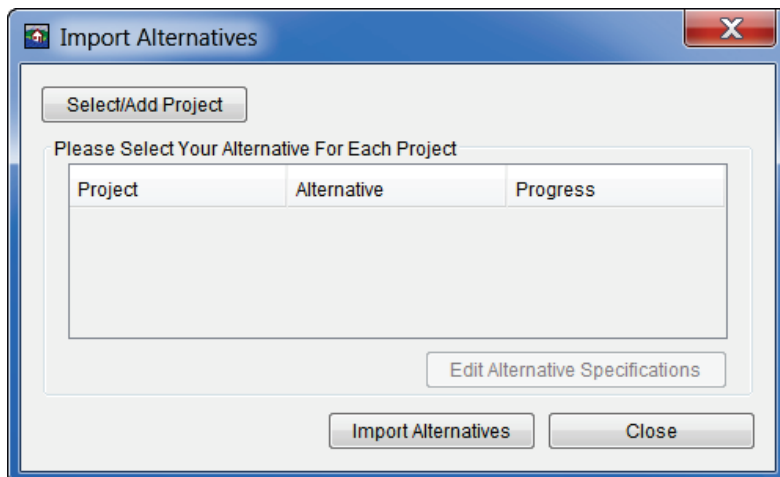

**Figure 8.11** HEC-RAS Importing Window
3. The **Select RAS project to import from** browser will close (Figure 8.10). An **Importing** window (Figure 8.11) will open; when the HEC-RAS model import is complete this window will close. The HEC-RAS model import is completed.